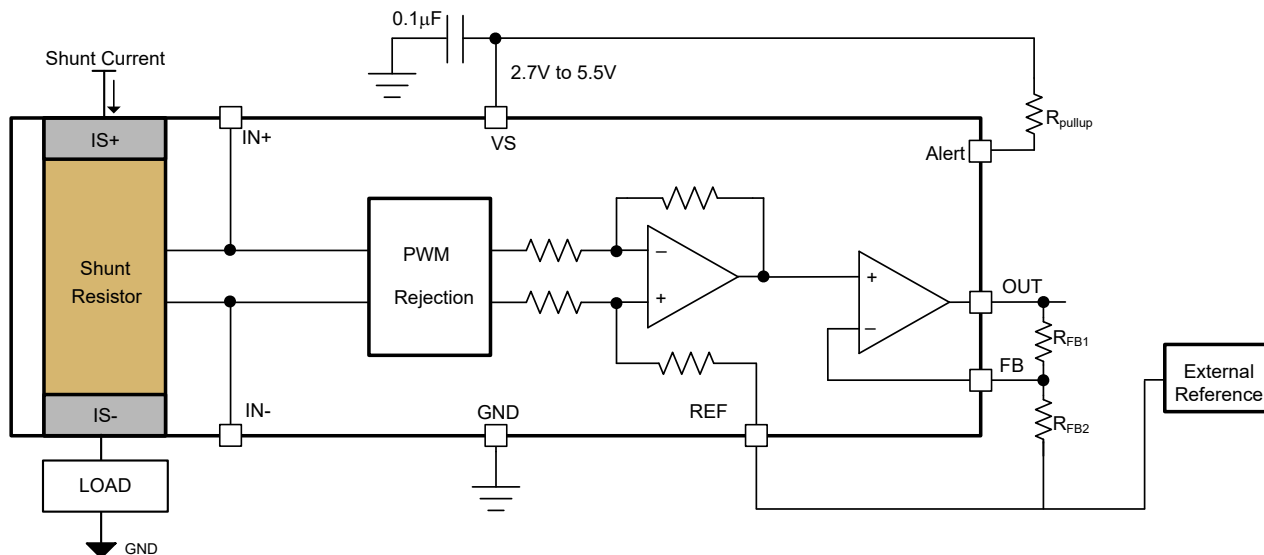

Figure 6-8. Adjustable Gain Setting With External Resistor Divider
The INA790x-Q1 features adjustable gain with two external resistor network. The default gain is 20mV/A, and with added external adjustable gain resistor network, total gain (G) can range up to 400mV/A. Figure 6-8 shows two external resistors R_{FB1} and R_{FB2} configured for added external gain. Equation 2 can be used for calculating external adjustable gain and Equation 3 shows the total gain of the system with external adjustable gain. The REF pin and one end of resistor R_{FB2} is connected to external reference based on needed voltage at OUT pin as described in Adjusting the Output With the Reference Pin.